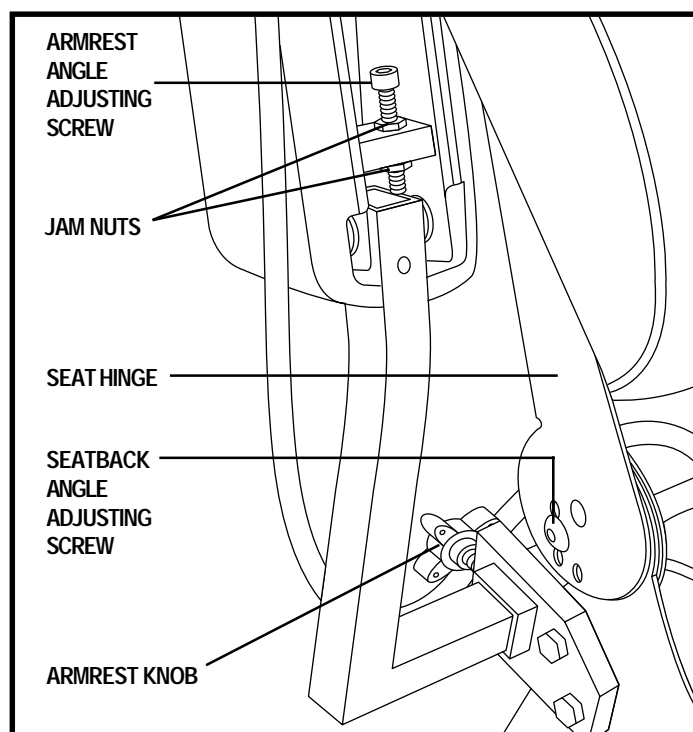

Figure 16. Seatback/Armrest Adjustment
1. Remove the adjusting screws from each seat hinge. See figure 16.
1. Locate the two armrest knobs on each side of the armrest receiver bracket. See figure 16.
1. Lift the armrest straight up so that it is perpendicular to the floor. See figure 16.